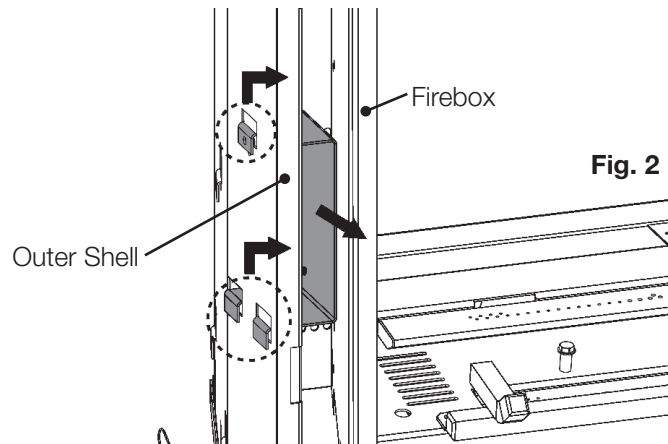

Fig. 2
4. Place the bracket and receiver back through the opening between the firebox and the appliance's outer shell. Slide the bracket and receiver into and down the slots (**Fig. 2 in reverse**).